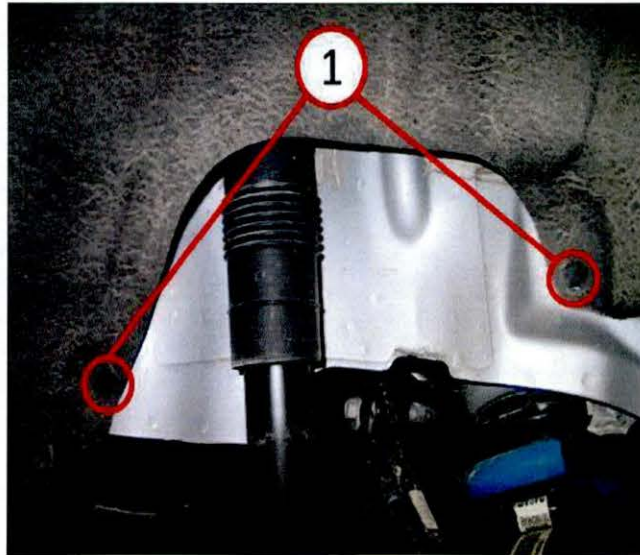

Fig. 1 Wheel House Liner
5. Locate and remove the push pins from the inner wheel house and pull back the liner to fully access the rear strut assembly (Fig. 1).
15. Reposition inner wheel house and install the two push pins (1) (Fig. 1).